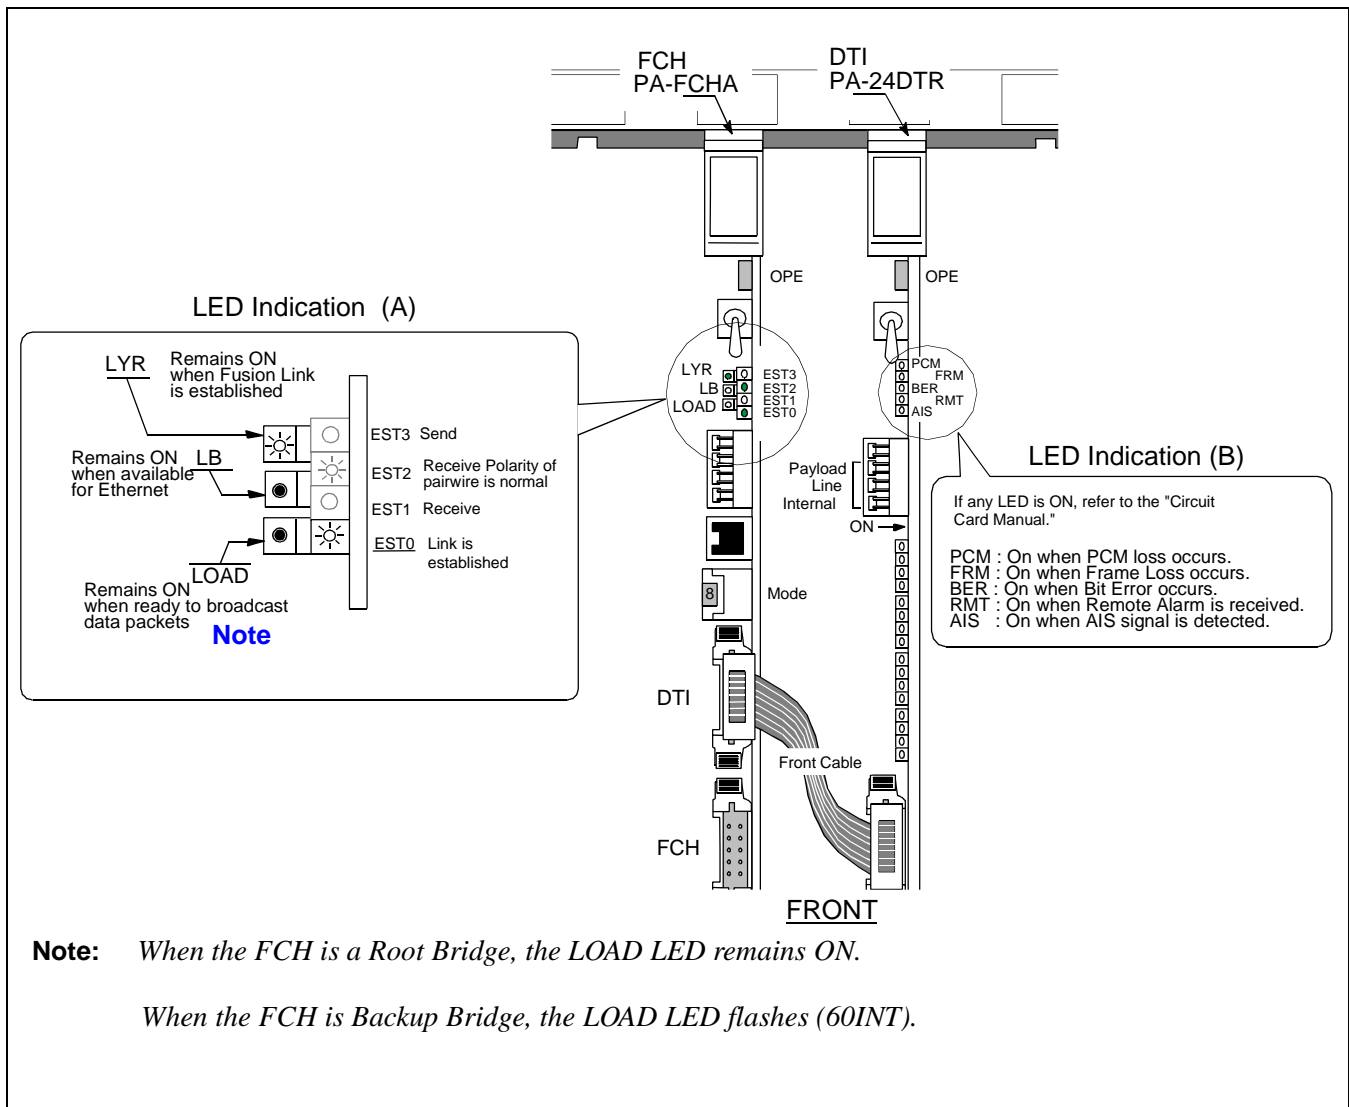

Figure 6-2 LED Indications on Fusion Link Related Circuit Cards
Before performing the Fusion link test, be sure to check the Fusion Link LEDs. Refer to Figure 6-2 for the LED indications. When the Fusion link is established, the LYR lamp lights green on the FCH (PA-FCHA) circuit card. However, if it remains off, the layer 2 (Link Layer) is not established. If this is the case, follow the repair procedure listed below.
1. Confirm the LYR LED lights green on the front edge of the FCH (PA-FCHA) circuit card. (See “LED Indication (A)” in Figure 6-2.) When the LED lights green, the fusion link is established.
2. Make sure that any alarm LED is not ON (red/yellow). (See LED Indication (B) in Figure 6-2.)